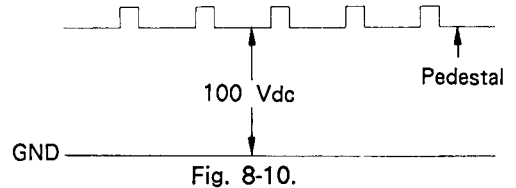

Fig. 8-10.
- 1) Using an oscilloscope, adjust with the cutoff VR (RV701, RV703, and RV705) so that cathode voltage (between cathode and ground) of red, green, and blue is 100 Vdc. (Fig. 8-10.)